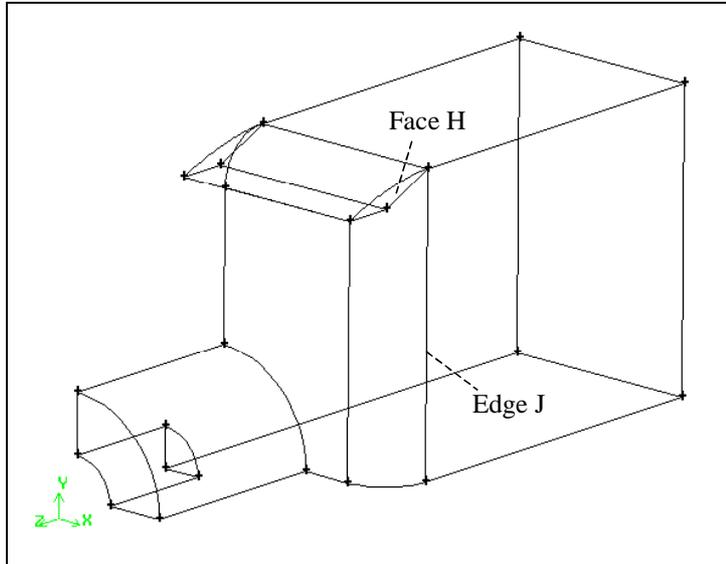

Figure 4-19: Face and edge to be used for sweep face
a) Select the face marked H in Figure 4-19.
c) Select the edge marked J in Figure 4-19.